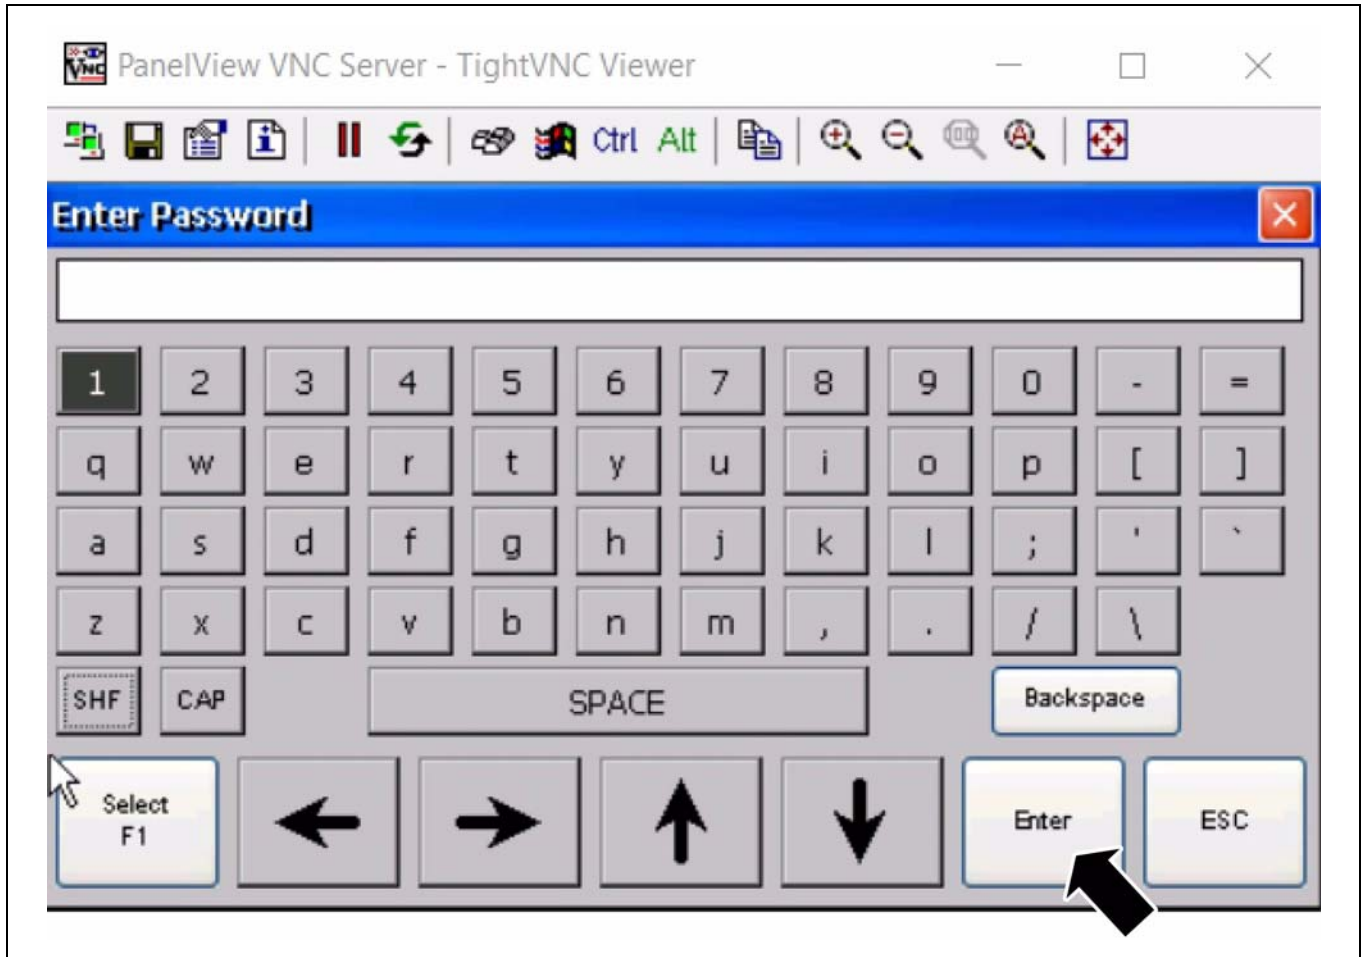

Figure 3E
3. Enter the word “password” and hit the Enter key. (See Figure 3E.)